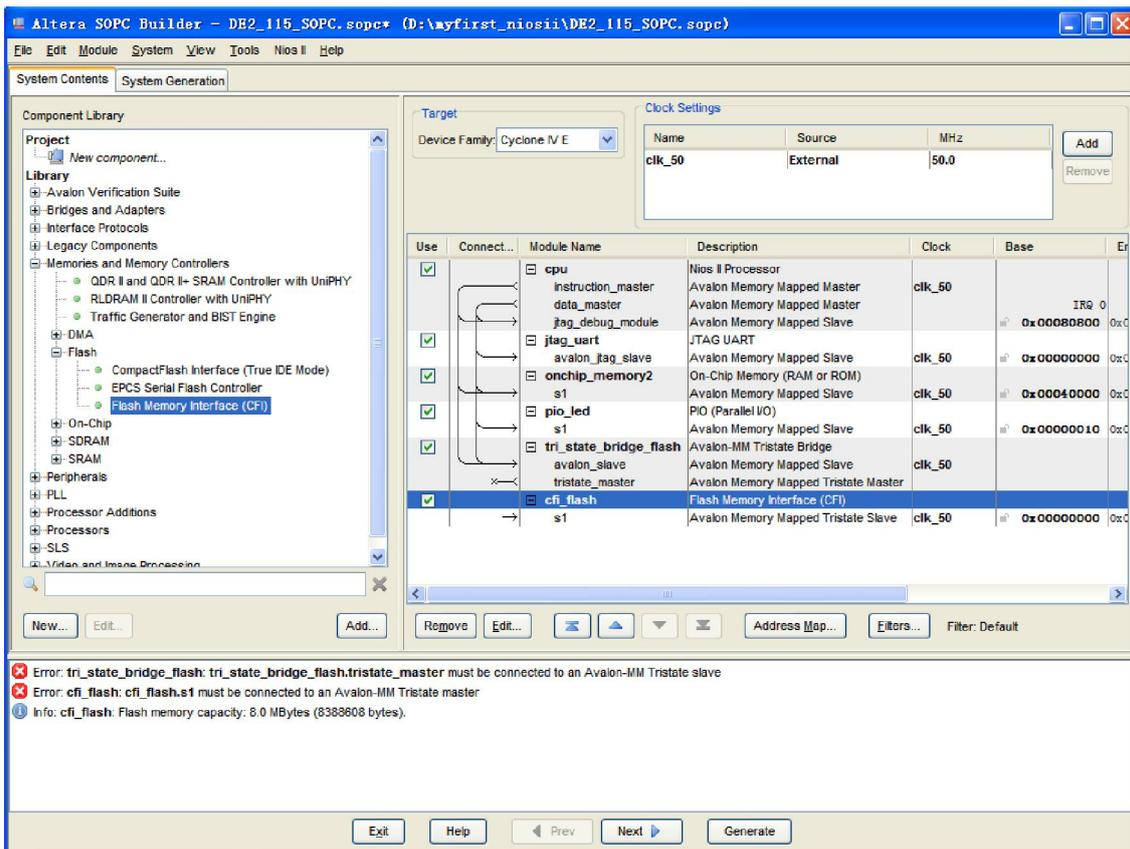

Figure 3-10 Rename Flash Memory Interface (CFI)
8. Rename Flash Memory Interface (CFI) as shown in Figure 3-10.